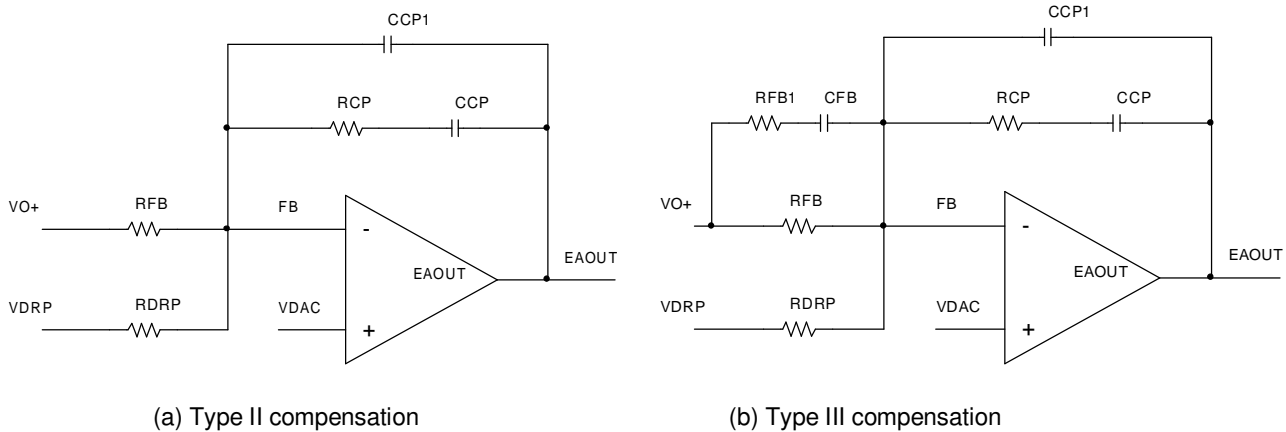

Figure 18. Voltage loop compensation network
Resistors RFB and RDRP are chosen according to Equations (15) and (16), and the selection of compensation types depends on the capacitors used. For the applications using Electrolytic, Polymer or AL-Polymer capacitors, type II compensation shown in Figure 18 (a) is usually enough. While for the applications with only ceramic capacitors, type III compensation shown in Figure 18 (b) is preferred.
All ceramic output capacitors are used in the design, type III compensation as shown in Figure 18(b) is used here. Choose the desired crossover frequency $f_c = 80$ kHz and determine R_{CP} and C_{CP} :